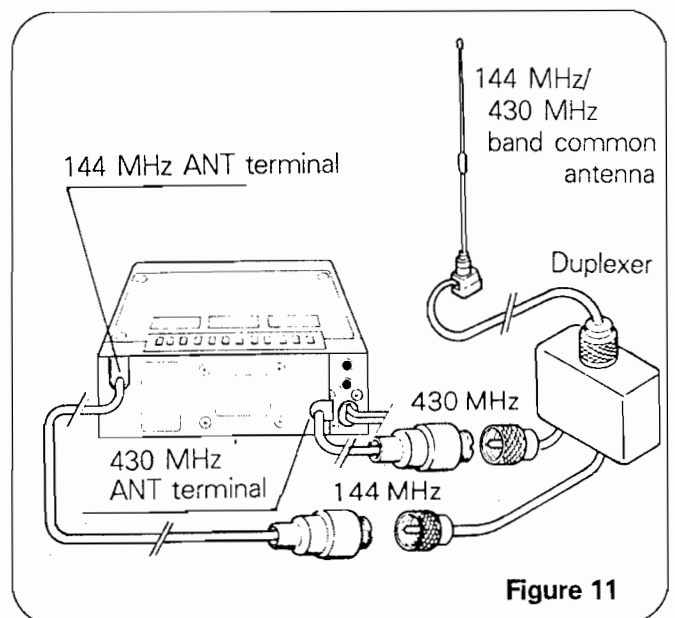

Figure 11
### ② When connecting to common antenna (Figure 11)